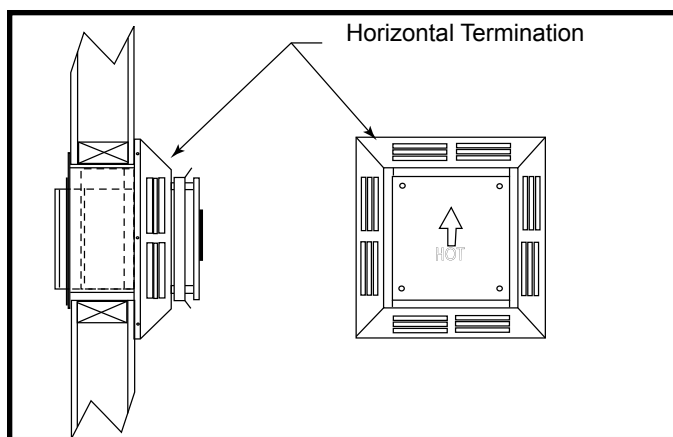
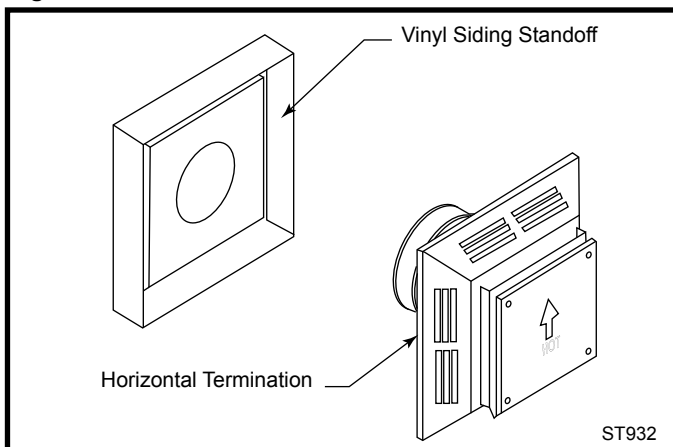

Figure 41 Horizontal termination.
Figure 42 Vinyl siding standoff and horizontal termination.
6. Install the horizontal termination to the exterior wall using four (4) all purpose screws through the holes located at each corner of the termination. Make sure the arrow (embossed on the front of the termination) is pointing up. (Figure 41) If the house has vinyl siding, a Vinyl Siding Standoff (VS) must be installed prior to installing the horizontal termination. Refer to the appliance manufacturer to determine if one is recommended. Attach the vinyl siding standoff to the exterior side of the wall (making sure it is level and centered with respect to the opening) with screws (provided) at each corner of the standoff. Attach the horizontal termination to the stand-off. (Figure 42)